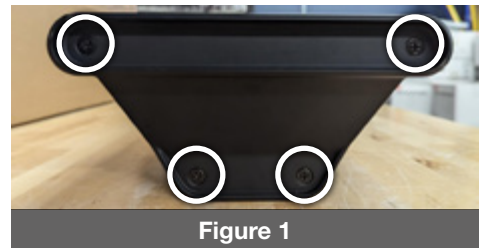

Figure 1
1 Remove the end cap adjacent to the electronic module by unscrewing the four (4) screws. The seal must remain in place on the end cap. Set them aside (**Figure 1**).